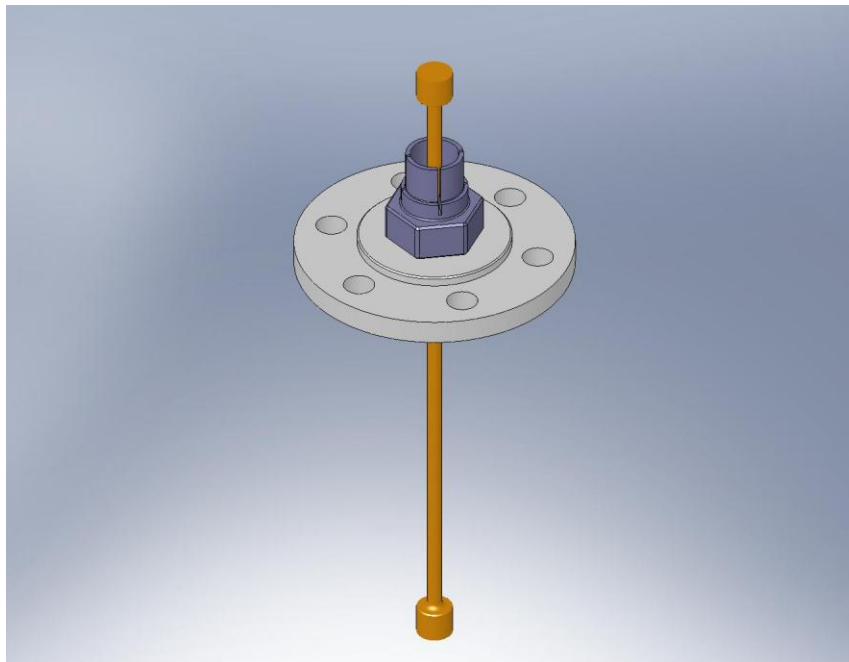

Figure 3.5. Insert Flexure.
- Insert **Flexure** (D071102) through **Flexure Mount**, as shown in Figure 3.5.